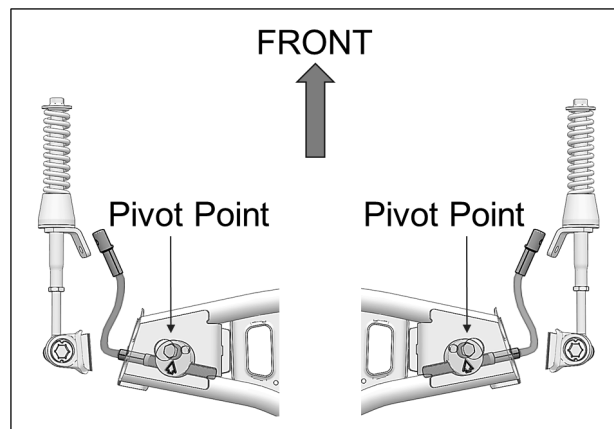

Fig. 26
13. Make sure aluminum disk pivot point is installed in front of steering limiter cable. See Fig. 26